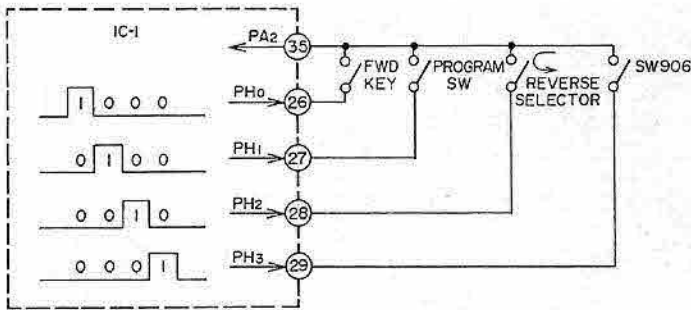

Fig. 14
If any input is made into (35), it is processed within the microcomputer depending on the signal and the signal is outputted from the respective terminal. If 1000 is inputted into (35), it is judged as FWD and the related signal is inputted to the output terminal. (See Fig. 14). Similarly, Signal 0100 from (27) passes the emitter and collector of TR86 and enters the Counter P.C Board. When the program SW (SW6) is pressed, Signal 0100 is inputted into IC1 (35), Signal 0010 from (28) passes the collector/emitter of TR87, and through D66 and the reverse selector SW (), it is inputted into IC1 (35). Signal 0001 from (29) passes SR1 and SW906 and is inputted into (35).